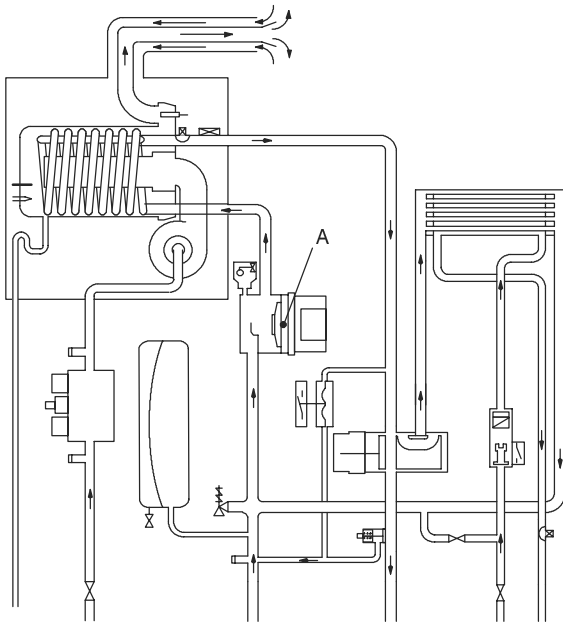
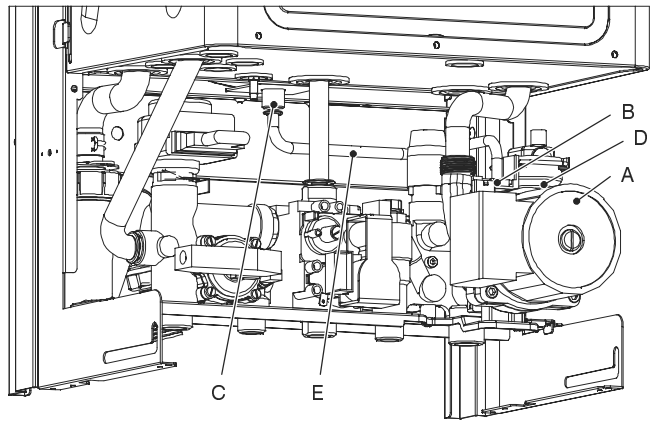

Fig. 7.1
Fig. 7.2
The pump A in Fig. 7.1 and Fig. 7.2 has the function of making the water in the main circuit circulate through the main condensing heat exchanger and therefore through the c.h. system (during the c.h. function) or through the secondary heat exchanger (during the d.h.w. function).
- 4 Disconnect the connector B (Fig. 7.2).